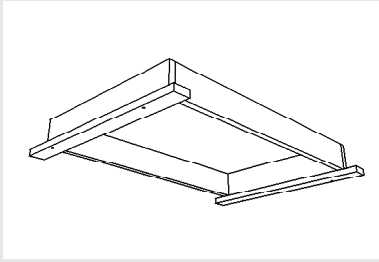
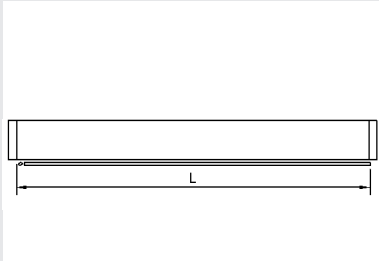

fig 7
fig 8
1. Screw two temporary cleats that are the full width of the opening to the ceiling (figure 7). Fix one cleat at the hinge end protruding 15mm into the opening. The other, at the opening end, must protrude 15mm into the opening also. The distance between these cleats must be $L + 10\text{mm}$ as seen in (figure 8). **The cleats must be securely fixed as they carry the full weight of the stairs**